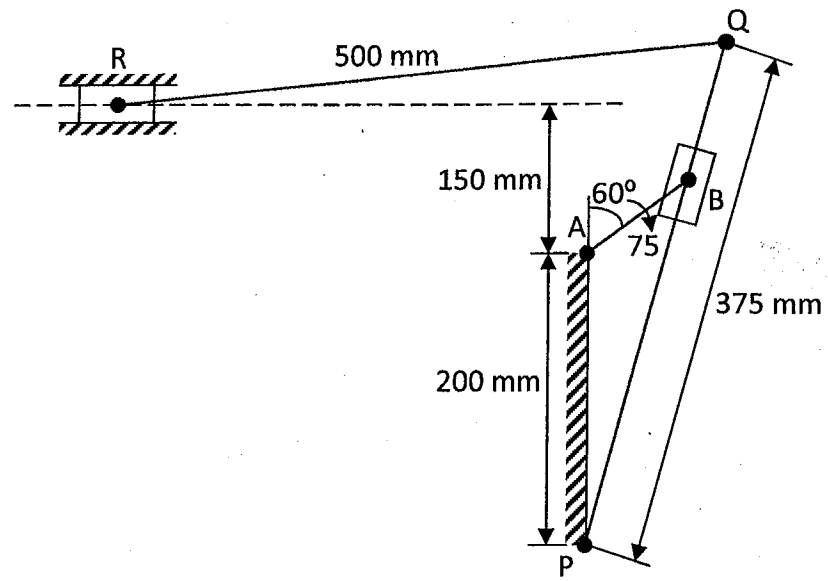

Fig.Q05
5. The driving crank AB of the quick-return mechanism, as shown in Fig.Q05, revolves at a uniform speed of 200 r.p.m. Draw velocity and acceleration diagrams. Write expressions to find the velocity and acceleration of the tool-box R, in the position shown, when the crank makes an angle of 60° with the vertical line of centres PA. Write expressions to find the acceleration of sliding of the block at B along the slotted lever PQ.